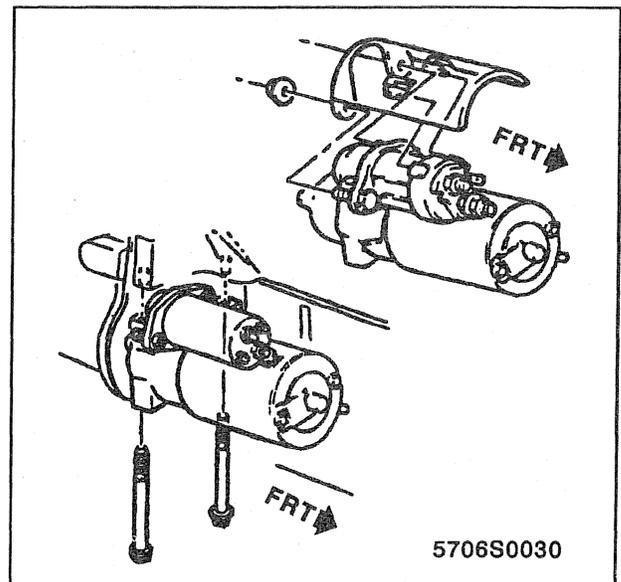

Figure 12—Gas Engine Starter Motors and Heat Shield
**Remove or Disconnect (Figures 12, 13, 14, and 15)**
Install or Connect (Figures 12, 13, 14, and 15)